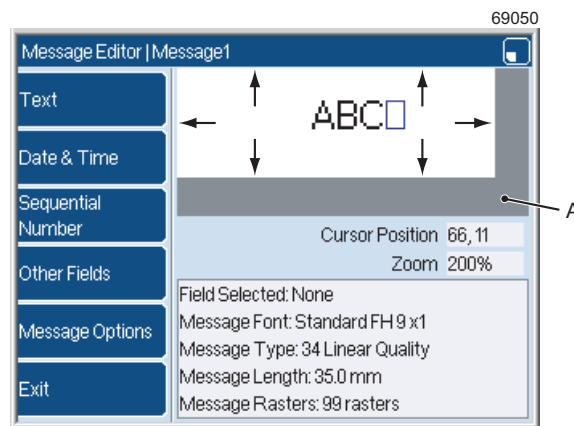

Figure 4. Message boundary
You can use this option to set the maximum length of the message. The **Message Editor** page shows the height and width of the message. In Figure 4, the arrows indicate the message boundary (the white area). The grey area (A) is outside the boundary.